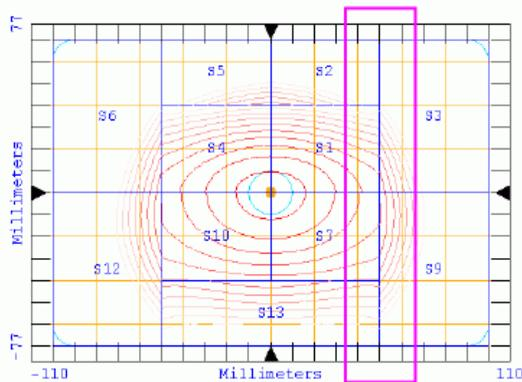

Figure 2.14 Shifting a group of vertices. The rectangle shows the vertices to enclose for shifting.
- 1 Press the **Ctrl** key and drag the pointer in the Reflector view to enclose the vertices, and release the pointer. See Figure 2.14.